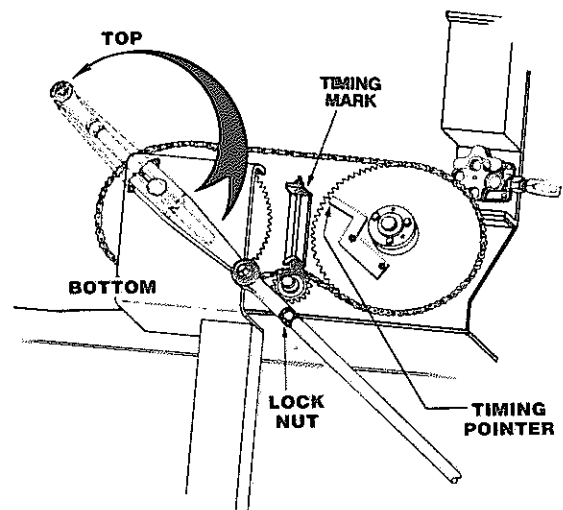

Fig. 37
5. Use the manual control to position needle yoke at bottom dead center (home position), see **Fig. 37**.